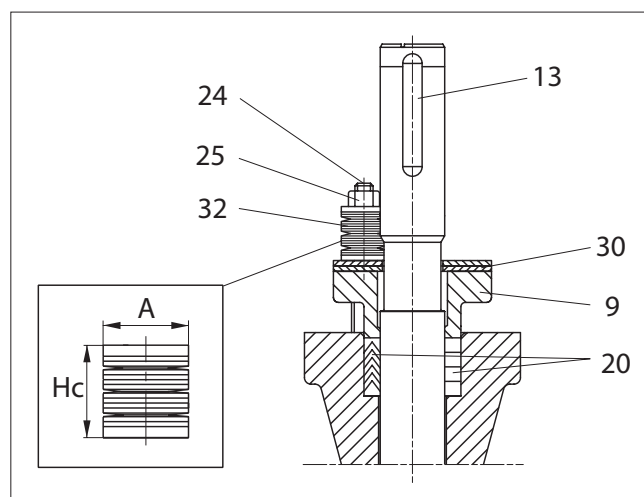
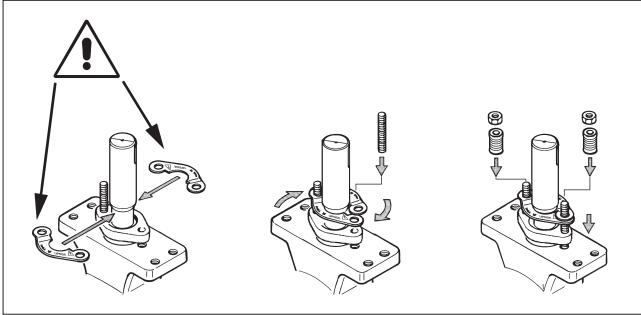

Fig. 17 Gland packing, FL
Fig. 18 Installing the retainer plates
In gland packings, tightness is ensured by the contact between the gland follower and the packing rings. See Fig. 17.
- Remove the key (13).
- Remove the hexagon nuts (25), disc spring sets (32), one stud (24), retaining plates (30) and gland follower (9).
- Remove the packing rings (20) from around the shaft using a knife or some other pointed instrument without scratching the surfaces.
- Place the new packing rings (20) over the shaft (11). The gland follower may be used for pushing the rings into the counterbore. Do not damage packing rings in the shaft keyway. See Fig. 17.
- Deform the packing rings first by tightening the gland nuts (25) without disc springs to the torque Tt, see the value from Table 3.
- Remove the gland nuts and one stud. Mount the retaining plates (30) with the text UPSIDE on top, see Fig. 18, and the removed stud and place the disc spring sets (32) on the gland studs. Tighten the nuts (25) so that the disc springs are compressed to the height Hc, see Table 3. Lock the nuts with locking compound e.g. Loctite 221.